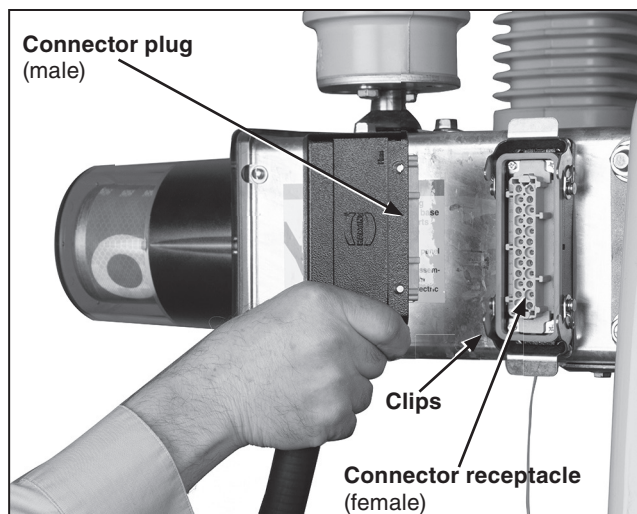

Figure 11. Plug the connector into the socket and secure with the clips.
- (e) Retain the dust cover and sensor shorting blocks for future use. See Figure 11.